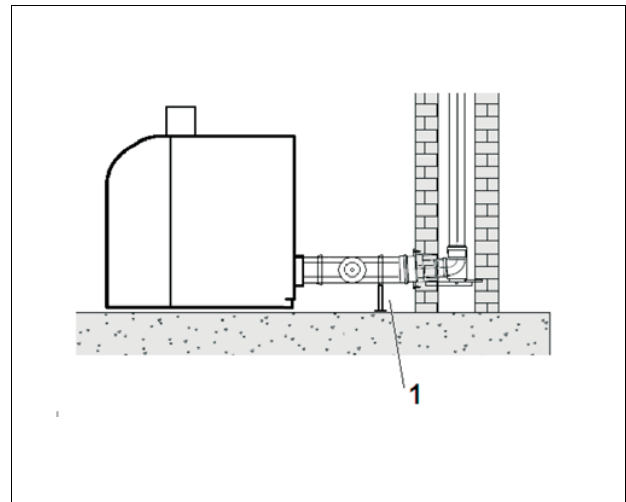

Fig. 13 Connecting boiler with chimney connection
- Connect the inspection and clean-out pipe to the boiler adapter. Then measure the remaining distance to the chimney penetration, cut a concentric pipe to length, deburr, and install via concentric pipe with the concentric wall penetration (Fig. 13).
- When covering longer distances, support the pipe at least every 6' (2 m) (Fig. 13, **Item 1**).